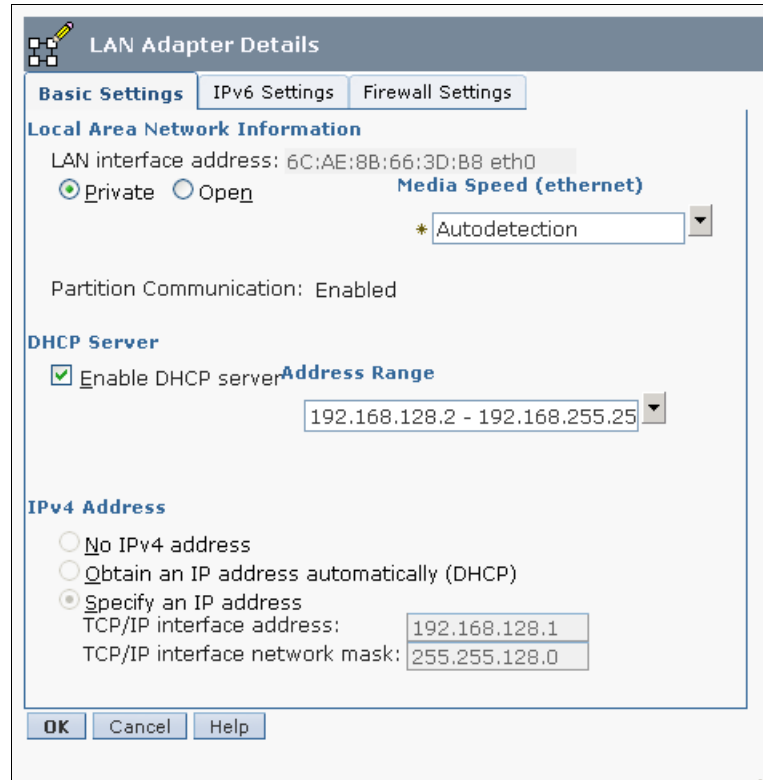

Figure 2-9 Customize Network Setting for LAN Adapters: partition communication
4. In the LAN Adapter Details window (Figure 2-9) on the LAN Adapter tab, select **Open** within the local area network information area to enable the check box for Partition Communication. Then, select **Partition communication**.